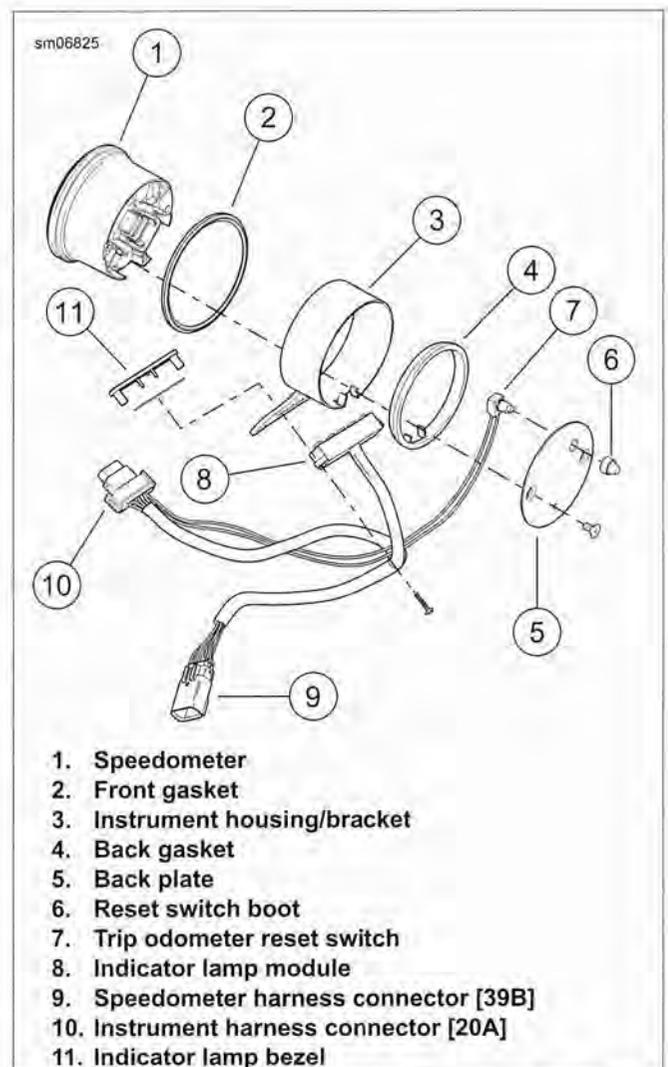

Figure 6-12. Speedometer Components: XL 883R
- **XL 883L/R:** See Figure 6-12.